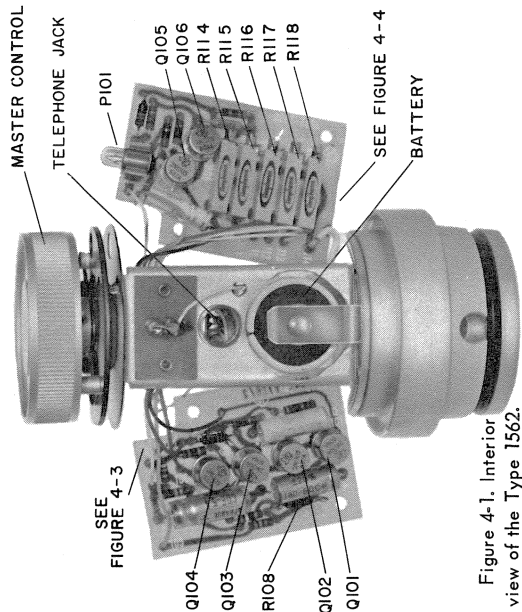

Figure 4-1. Interior view of the Type 1562.
If a part is found to be defective in the instrument replace it now and proceed to paragraph 4.7. In replacing a part, the interior view (Figure 4-1), the etched-board diagrams (Figures 4-2, 4-3, 4-4), the schematic diagram (Figure 4-5), and the parts list following this section will be of assistance.
(Table 4-1, Figure 4-1).
- 1) R108 open (Figure 4-1).
1) Failure of Q101, Q102, Q103, or Q104 (Table 4-1, Figure 4-1).
a. Remove the cover as above and install a good nine volt battery. (See Figure 4-1 for position).